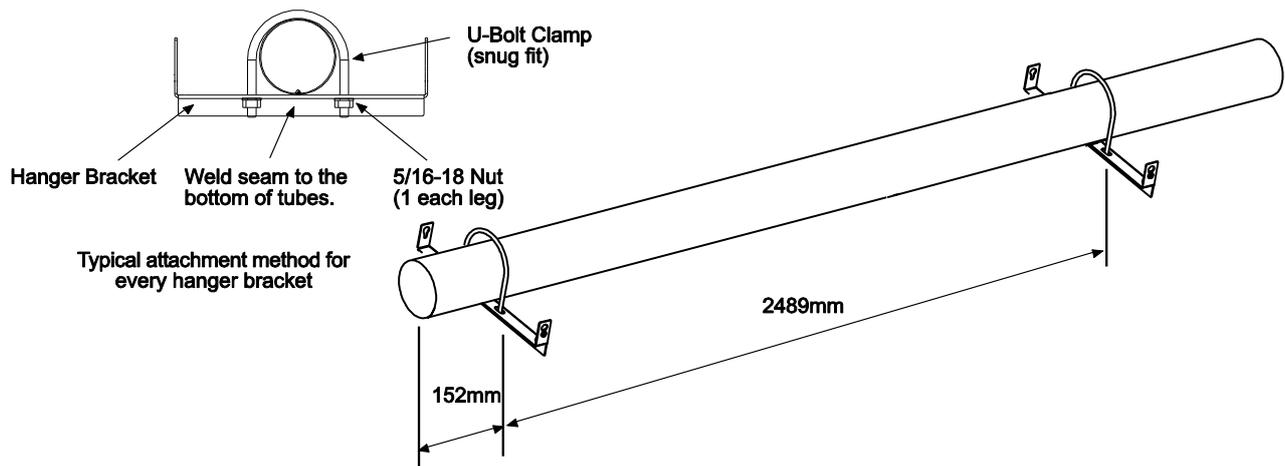

Fig. 22
3. Space the **hanger brackets** according to the dimensions shown in the figures below for the first tube section. **Note:** The distances are measured from center of the holes of each support/hanger bracket. See figure 22 below:
- IV. Secure the tubes to each support/hanger bracket using U-bolt clamps and 5/16-18 nuts provided. See Fig. 22 for required U-bolt tightening sequence.